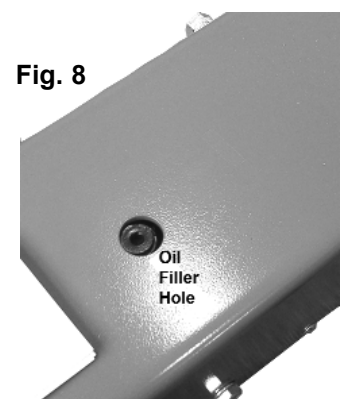

Fig. 8
3.6.1 With the jack in the upright position and the ram completely retracted, open the oil filler hole by turning the sealing plug three turns counter-clockwise with a 6mm Allen key. Refer to Fig. 8.